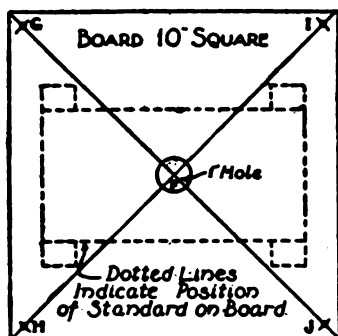

FIG. 140. — Plan of Top of Standard for Merry-go-round.
**To Make the Standard** for the merry-go-round, cut four strips of wood 8 inches long, and fasten one to each corner of the cigar box, turning the bottom side of the box up; then cut a piece of  $\frac{1}{2}$ -inch board 10 inches square, locate its center *F* by drawing diagonal lines from corner to corner as shown in Fig. 140, bore a 1-inch hole through it at this point for spool *D* (Fig. 136), and then nail the box to the center of the board as shown in Fig. 140.
tening the tent upon its tent-poles. Cut out the tent along the outer circle, and from it cut a triangular piece about the size of that included between lines *KL* and *ML* in the diagram. Cover the under edge of *KL* and the upper edge of *ML* with glue, lap *KL* over to about *NL*, and rub down the edges with a cloth to make as neat a joint between the pieces as possible (Fig. 142). Bore a hole through each corner of the standard top (*G*, *H*, *I*, and *J*, Fig. 140), then cut four sticks 7 inches long, sandpaper them until smooth, and glue them into these holes for